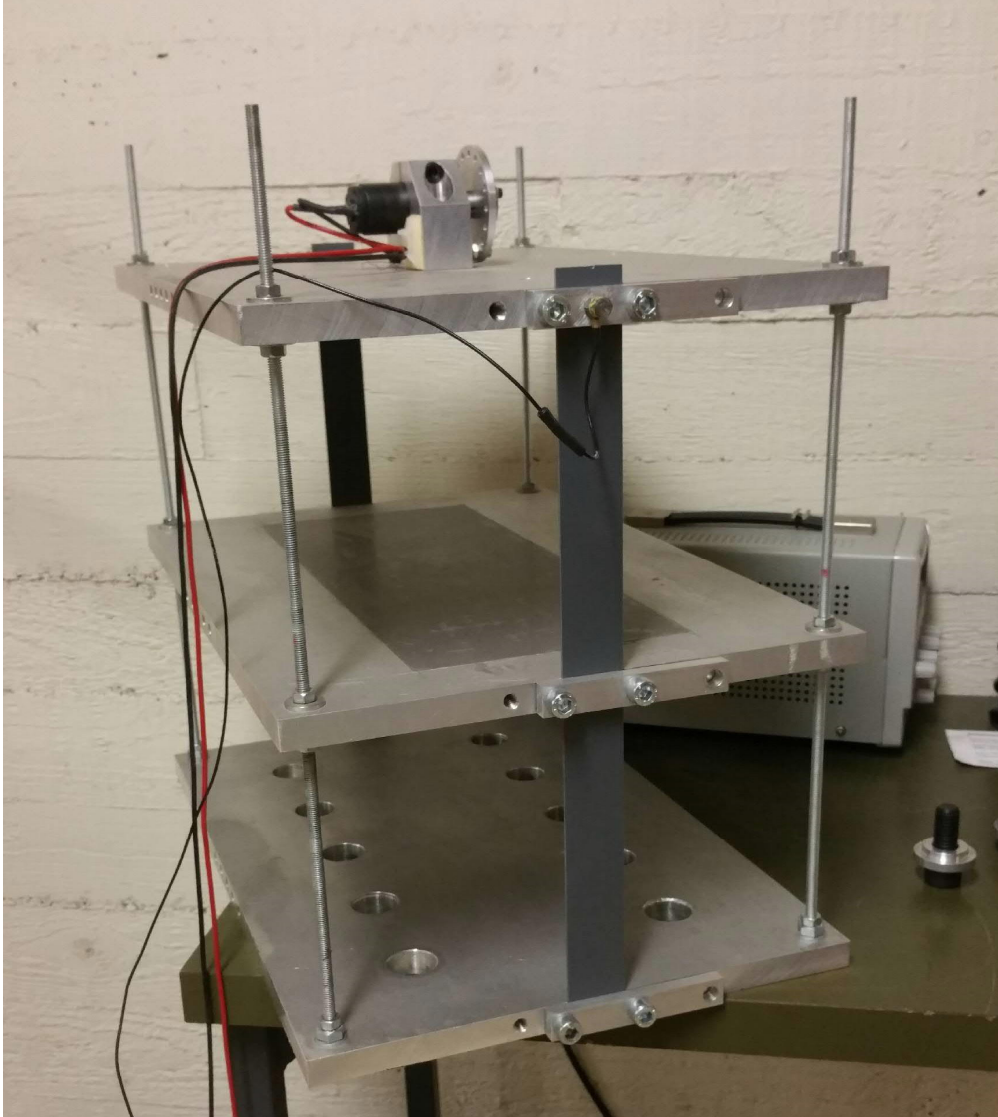

Figure 1. Set-up of the three-floor building experiment
In the modelling assignment, the dynamic properties of three-floor building in Figure 1 obtained by a model are compared with experimental results. The measures of comparison are the two lowest frequencies of the free vibrations. The calculations with the model use discretization by (1) particle surrogate method, (2) finite difference method, and (3) finite element method. Reporting consists of this assignment paper supplemented by the outcome of calculations (the missing data in Table 2). Return your report (in PDF) on Sun 25.04.2021 23:55 at the latest (MyCourses).